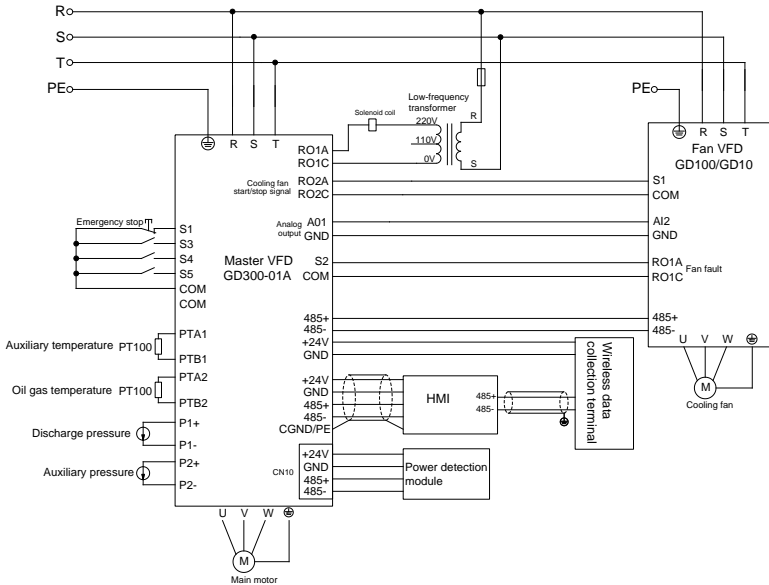

Figure 4-1 Wiring diagram of dual-VFD air compressor system
1. Perform wiring according to Figure 4.1 and ensure that the VFD for air compressor and the housing of the air compressor are grounded properly.